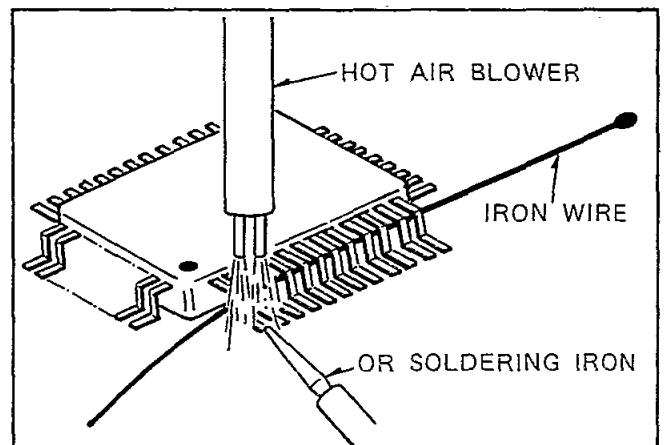

Fig. S23
- (1) Affix the wire to workbench or solid mounting point as shown in Fig.S23.
- (2) Pull up wire as the solder melts so as to lift the IC lead from the PCB contact pad, while heating the pins using a fine tip soldering iron or hot air blower.